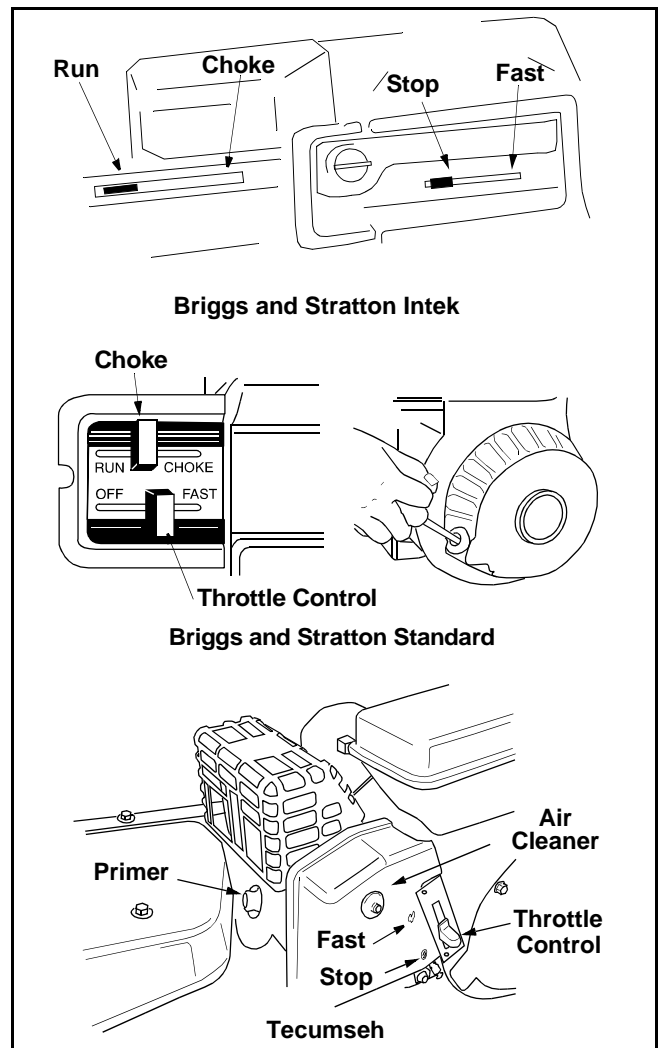

Figure 7
The throttle control lever is located on the engine. It controls the engine speed and stops the engine. See Figure 7.
The choke lever is located above the throttle control. It is used to enrich the fuel mixture when starting a cold engine. See Figure 7.
The primer button is located behind the air cleaner. It is used to enrich the fuel mixture in the carburetor when starting a cold engine. See Figure 7
- Place the throttle control lever in FAST position. See Figure 7.